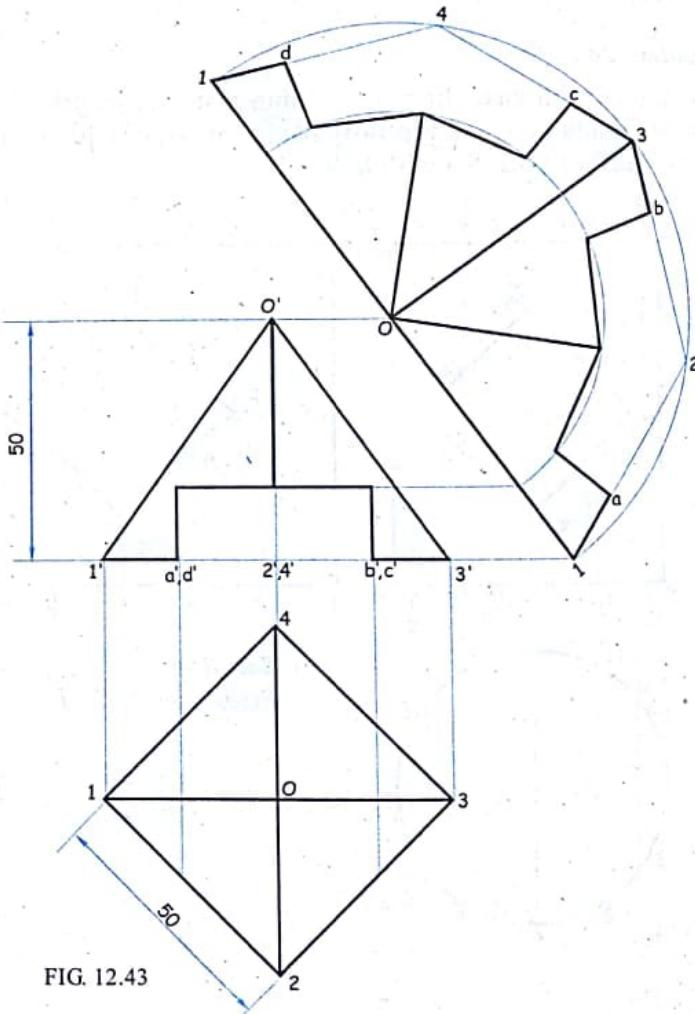

FIG. 12.43
**Solution :** Refer figure 12.43.